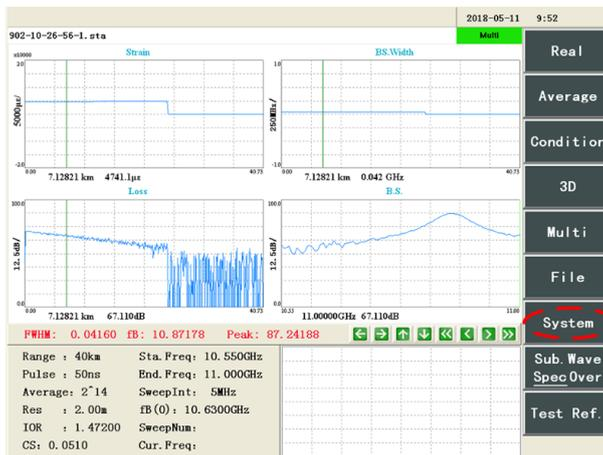

Figure 8-7 Position of [System] button
Step 1: Click the [System] button in the function menu button, as shown in Figure 8-7.